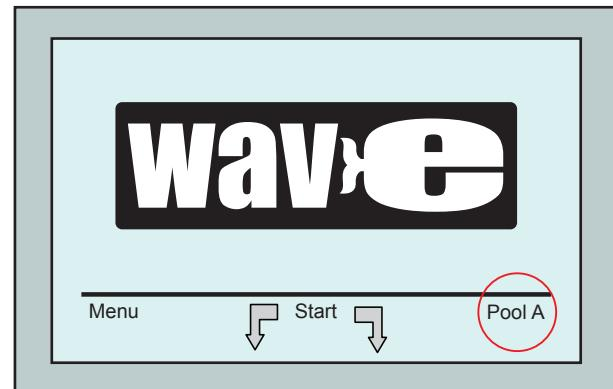

Figure 8: Wave screen showing Pool A as default setting
3. Switch on the power supply. The MMI's Wave screen (figure 8) opens in the home window.
1. Go to the Wave screen. "Pool A" is displayed as the currently defined setting as shown in Figure 8.
1. From the Wave screen, press the currently displayed pool setting at the right side of the screen (see Figure 8) to open the *Pool Profile* screen.